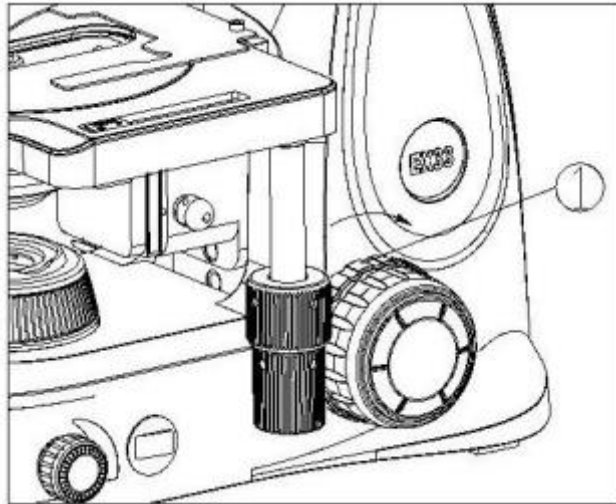

Figure 27
1. If the handle is very heavy when focusing, the specimen moves out of the focus plane after focusing, or the stage lowers itself, adjust the tension adjustment ring (1) (see Fig. 27).